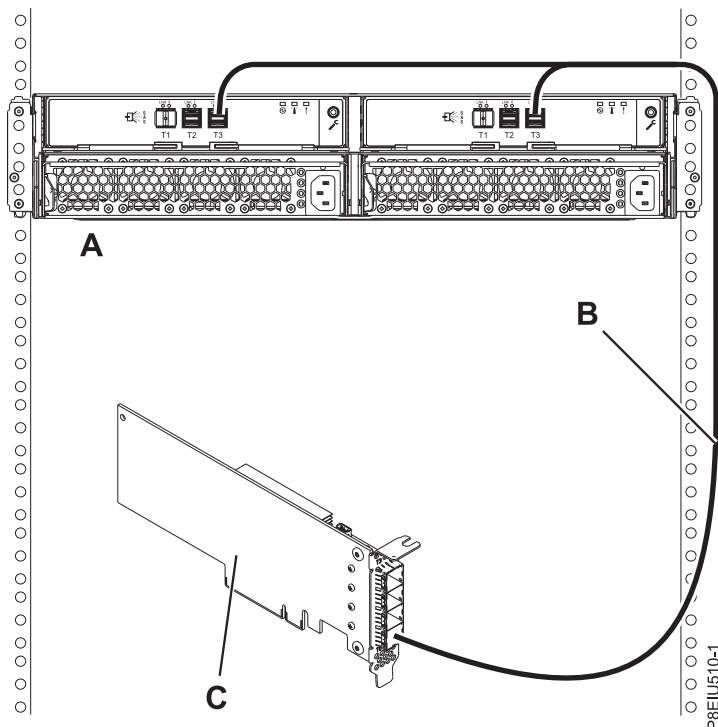

Figure 14. Mode 1 connection of one ESLL or ESLS storage enclosure by using a YO12 cable to a single FC EJ0J or FC EJ0M SAS adapter
14. Complete a mode 1 connection of one enclosure (**A**) by using a YO12 cable (**B**) to a single FC EJ0J or FC EJ0M SAS adapter (**C**), as shown in Figure 14, then continue with “Connecting cables, power cords, and installing covers” on page 22.